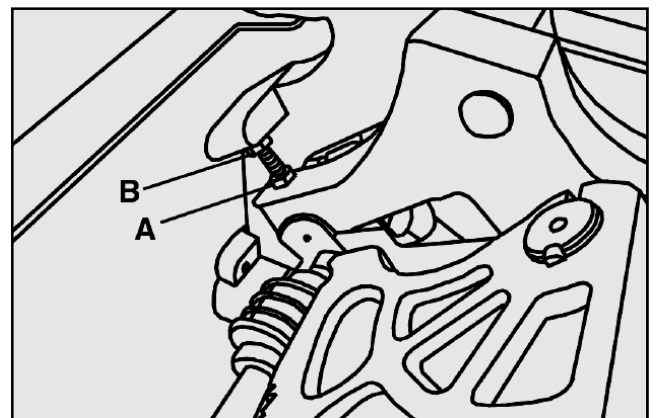

Fig. 25-2
5. If the 45 degree positive stop is not set properly, turn the same hand wheel clockwise as far as it will go and follow the same procedure using lock nut (C) As **Fig.25-2** and stop ring (D). The stop bolt (D) should stop against the front trunnion bracket when the blade is at 45 degrees to the table. Recheck and adjust further if necessary. Retighten lock nut (C).